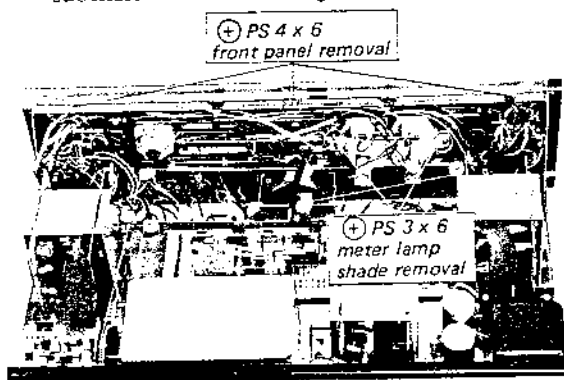

Fig. 2-3. Front panel and meter lamp shade removal
4. Remove the three screws from front edge of the subchassis as shown in Fig. 2-3.
1. Remove the two screws securing the meter lamp shade as shown in Fig. 2-3. This frees the shade and the meters.